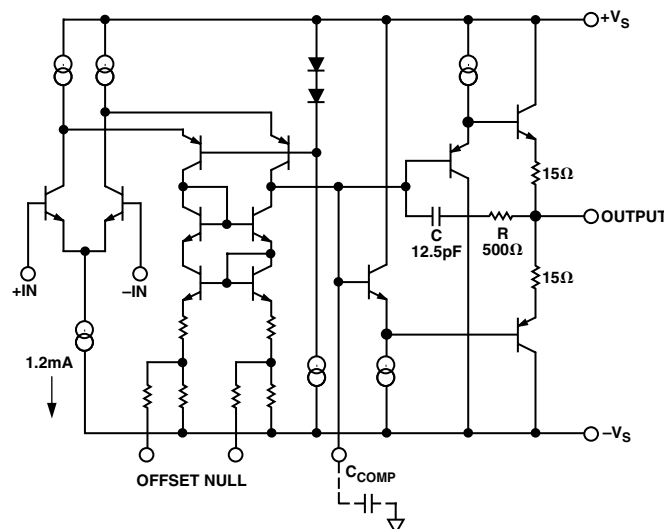

Figure 6. Simplified Schematic
The AD829 is fabricated on Analog Devices' proprietary complementary bipolar (CB) process, which provides PNP and NPN transistors with similar f_T s of 600 MHz. As shown in Figure 6, the AD829 input stage consists of an NPN differential pair in which each transistor operates at 600 μ A collector current. This gives the input devices a high transconductance, which in turn gives the AD829 a low noise figure of 2 nV/ $\sqrt{\text{Hz}}$ @ 1 kHz.
An RC network in the output stage (Figure 6) completely removes the effect of capacitive loading when the amplifier is compensated for closed-loop gains of 10 or higher. At low frequencies, and with low capacitive loads, the gain from the compensation node to the output is very close to unity. In this case, C is bootstrapped and does not contribute to the compensation capacitance of the device. As the capacitive load is increased, a pole is formed with the output impedance of the output stage this reduces the gain, and subsequently, C is incompletely bootstrapped. Therefore, some fraction of C contributes to the compensation capacitance, and the unity gain bandwidth falls. As the load capacitance is further increased, the bandwidth continues to fall and the amplifier remains stable.